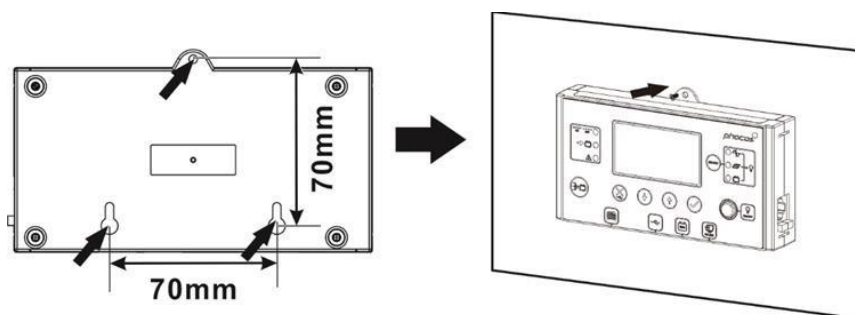

Fig. 12: Remote display mounting hole locations
5. Drill the three mounting holes in the marked distances of 70 mm, 2.76 in into each other (Fig. 12, left). Use M3, size no. 4 diameter screws. The screw heads must be between 5~7 mm, 0.2~0.3 in. Screw the bottom two screws into the wall where the display module is to be mounted and let the screw heads protrude 2 mm, 0.08 in. from the wall. Slide the display down on the protruding screw heads. Now insert and tighten the third screw at the top (Fig. 12, right).